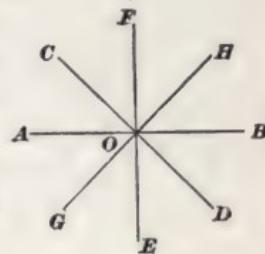

FIG. 15.
- 34.** Also, if through a given point any number of straight lines be drawn, the sum of all the angles formed about the points of intersection equals four right angles, or  $360^\circ$ . Thus, in Fig. 15, angles  $H O F + F O C + C O A + A O G + G O E + E O D + D O B + B O H = 4$  right angles, or  $360^\circ$ .